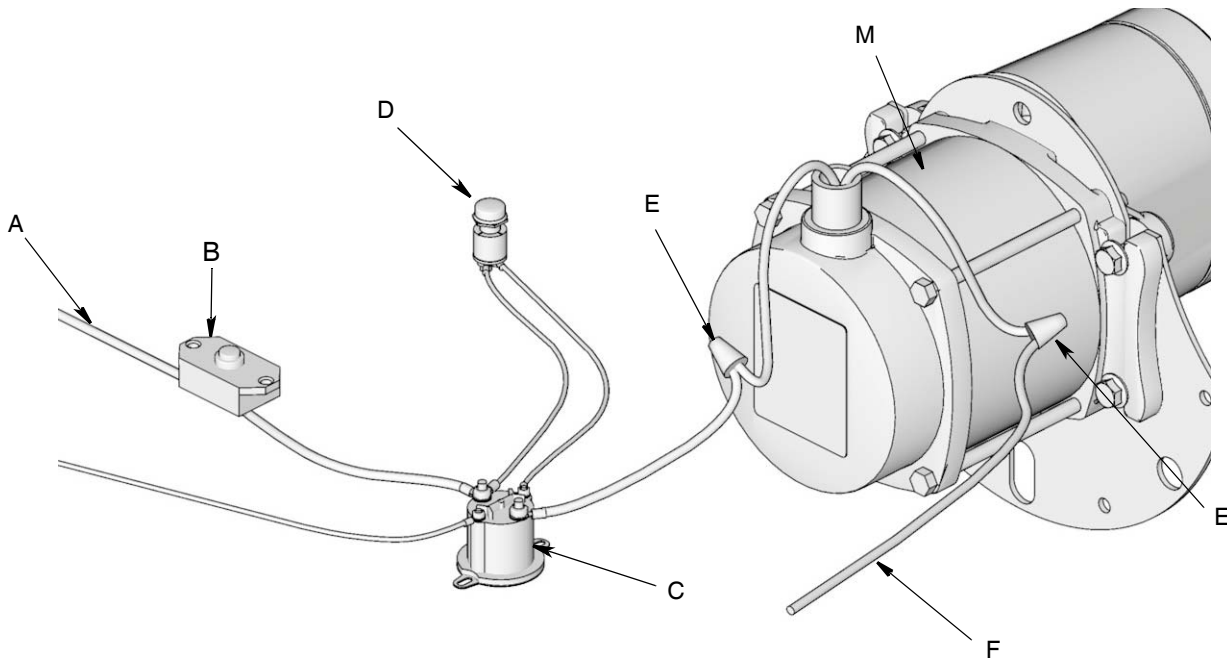
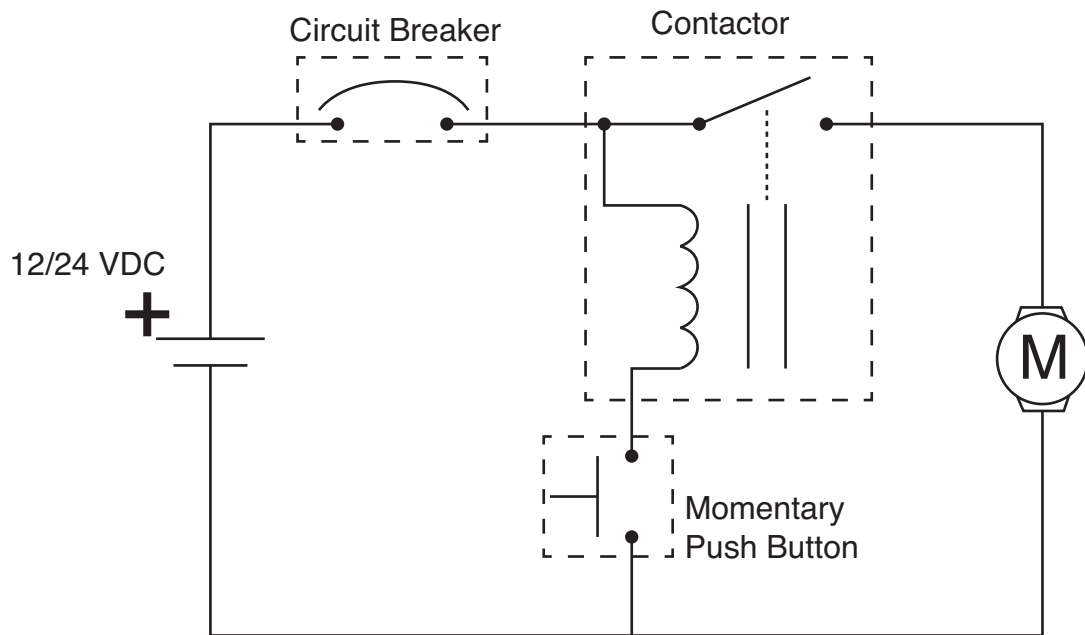

FIG. 61
FIG. 62
- Follow wiring diagram provided in FIG. 61 and Wiring Schematic provided in FIG. 62.